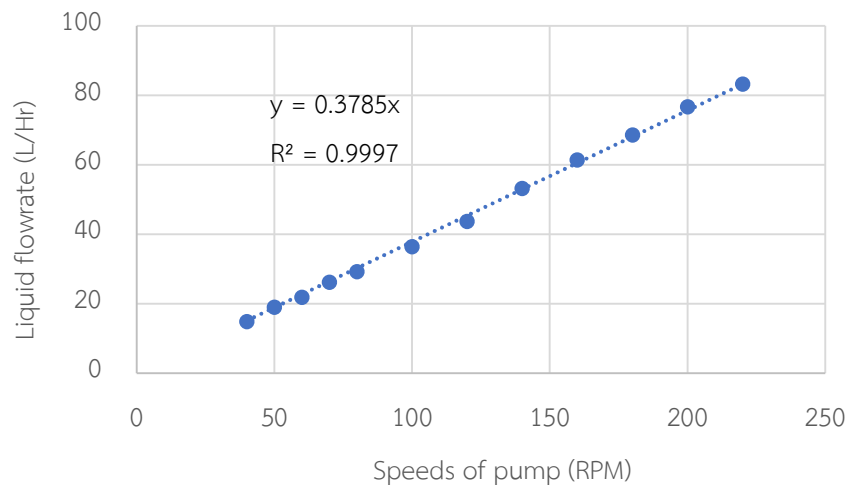

Figure 6 Calibration curve for speeds of pump and liquid flowrate
3. Adjust speeds of pump to get the appointed liquid flowrate, which can be calculated from calibration curve in Figure 6